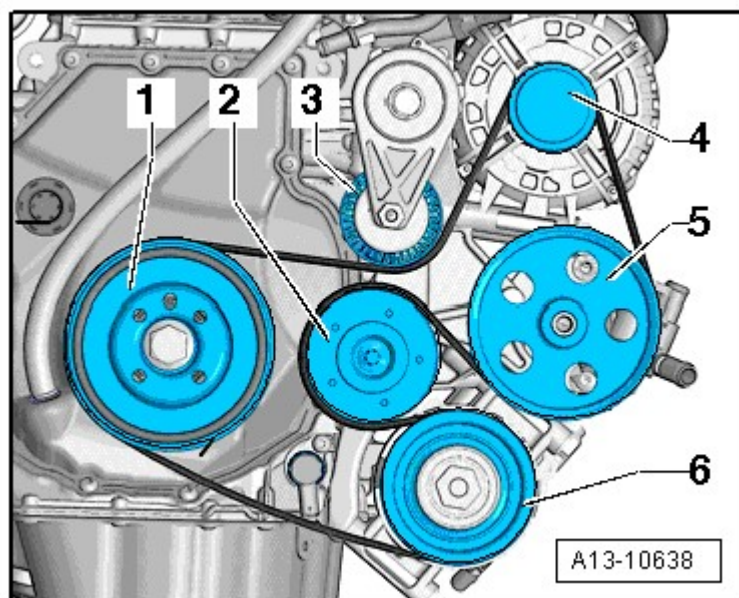

Fig. 3: Identifying Ribbed Belt Routing
- Ribbed belt routing, refer to **Fig. 3**